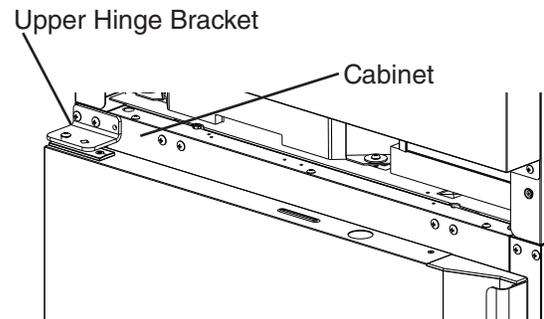

Fig. 25
10) Secure the upper hinge bracket to the appliance. See Fig. 25.